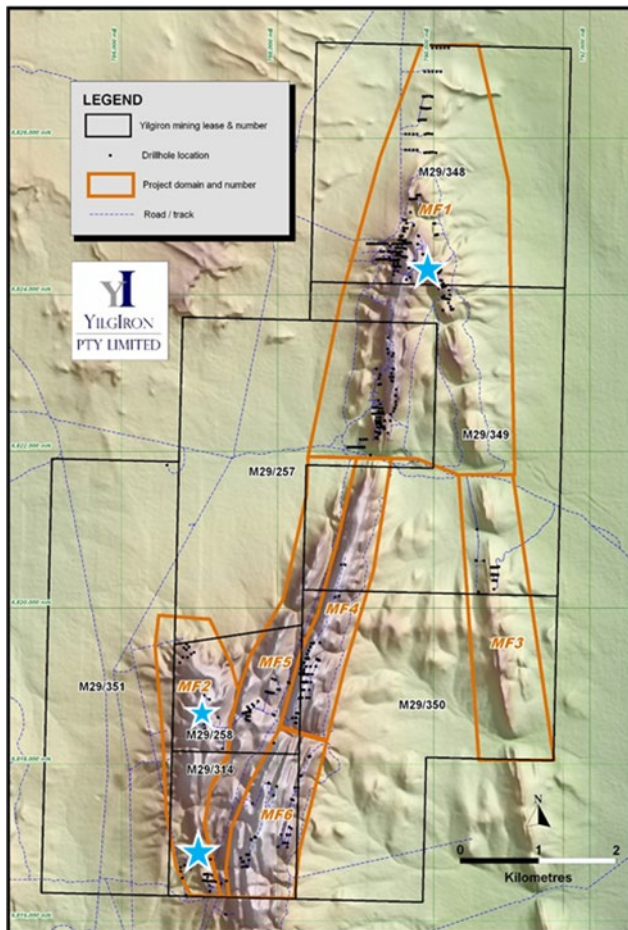

Figure 1 Mt Forrest Project with MF Domain Location Plan
- Drilling is focussed at two key locations, MF1 and MF2, refer to Figure 1.